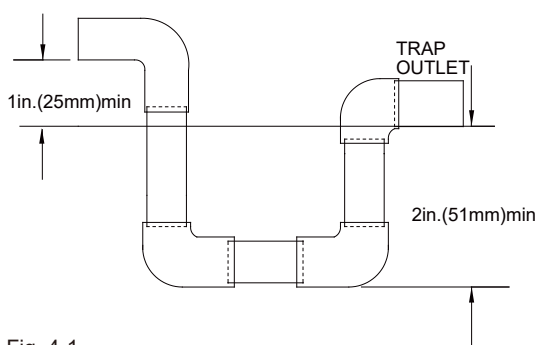

Fig. 4-1
5. Make sure that the outlet of the trap is at least 1 in. (25mm) lower than the drain pan condensate connection to prevent the pan from overflowing (See Fig. 4-1).
See above Figure.4-1 B, disconnect the Connective Tube and Drain Commutator, screw off the two fixed screws of Drain Pan, and then along with the rail pull out the Drain Pan and Connective Tube from the bottom of evaporator. Using a wet cloth or water to wash out the drain pan carefully.